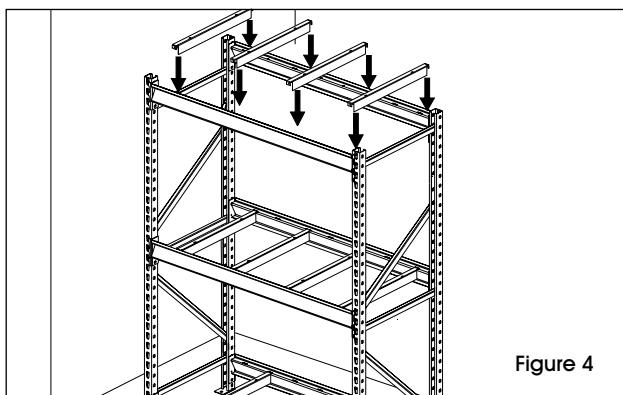

Figure 4
5. Attach shelf supports to the beam by inserting the flanges into the shelf beam slots. (See Figure 4)